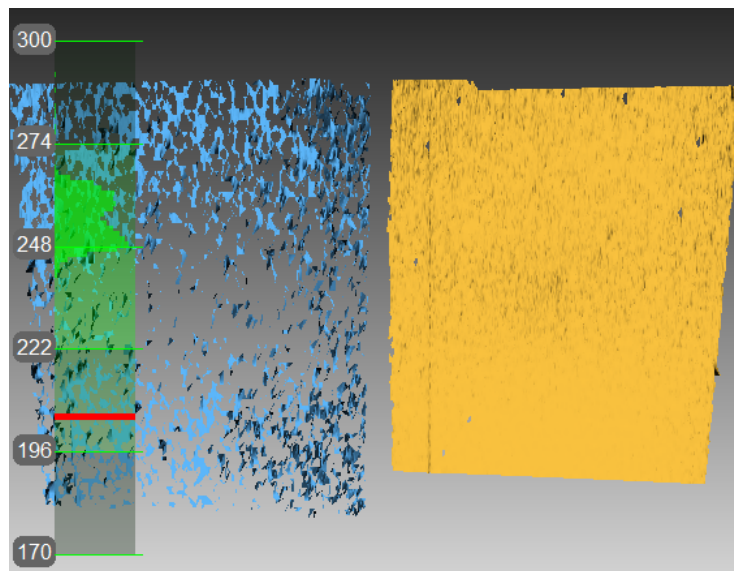

Figure 135: Artec Spider correction results.
In some cases, owing to careless handling or transportation (jolts, accidental drops or some other reason), the scanner may fail to capture surfaces properly. The scanned surfaces may only be partially reconstructed or may contain holes (for example, the results of bad reconstruction are noticeable on the blue surface in Figure 135). You can resolve these issues by correcting or calibrating the scanner.
9. Repeat Step 8 three more times. Once you finish, the calculation will start. A yellow plane that corresponds to the surface you captured using the corrected calibration settings will then appear in the *3D View* window (see *Figure 135*).